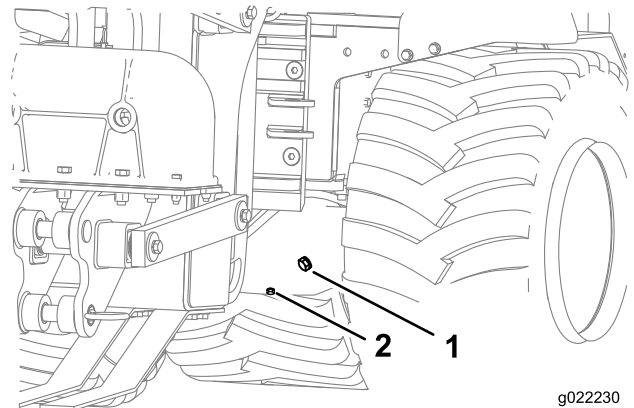

Figure 11
- Remove the fill plug from one of the axle differentials (Figure 11).